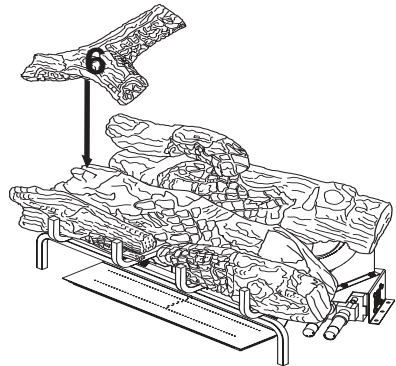

Figure 33 - Installing Log # 6
- Place the left top front log (#6) on the top of the middle log and the left top back log. Match the rectangular projection on top of the middle log with the rectangular hole on the bottom of the left top front log. The left top front log will rest on the flat part of the left top back log. See Figure 33.